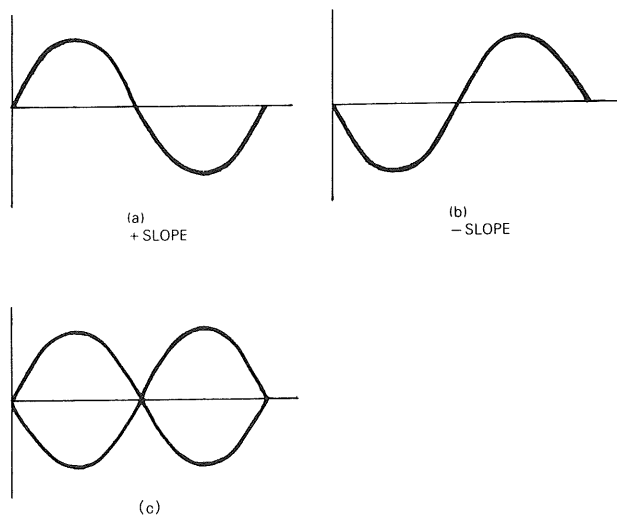

Fig. 6
3. Check the waveform so that + sweep is triggered on positive-going slope of waveform as shown in Fig. 6-(a) and - sweep is triggered on negative-going slope of waveform as shown in Fig. 6-(b).
4. Adjust VR303 so that the start point of each waveform remain the same when the SYNC switch select + and - as shown in Fig. 6-(c).